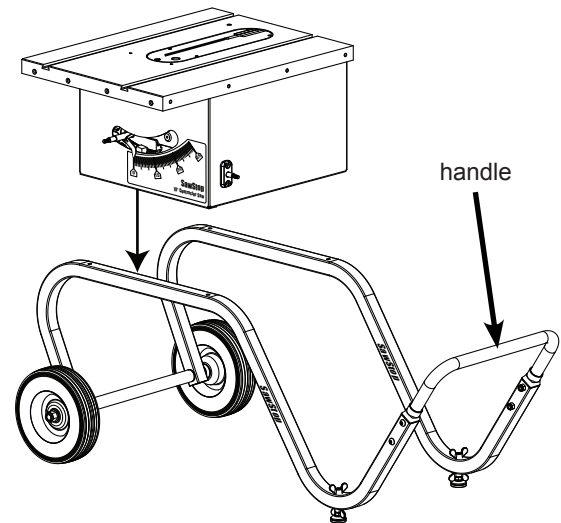

Fig. 10
10. The job site cart is now ready to support a SawStop® Contractor Saw. With the help of an assistant, pick up the saw and carefully set it on the job site cart. Make sure the front of the saw is oriented so that the job site cart handle is to the right, as shown in Fig. 10. While moving the saw do not set it down in the upright position on a solid surface because a dust shroud in the saw extends beneath the bottom edge and could be damaged.